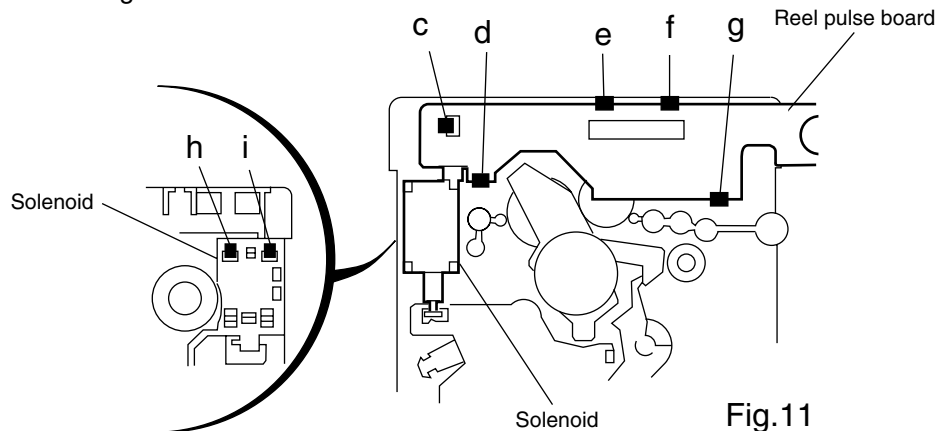

Fig.11
■ **Removing the reel pulse board and solenoid (See Fig. 11)**